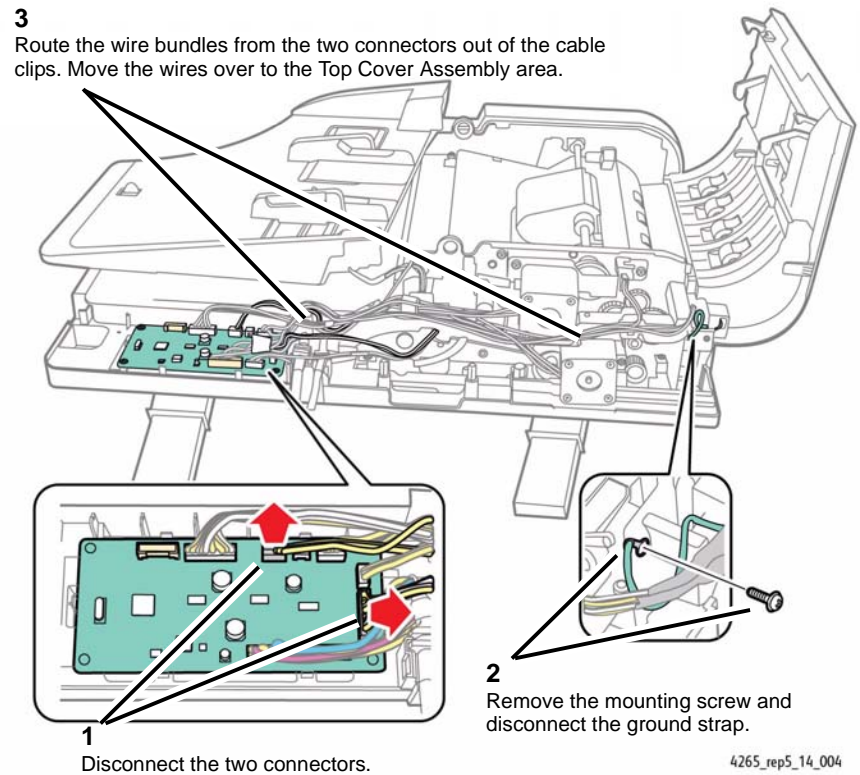

Figure 4 Preparing to Remove the Top Cover Assembly
6. Prepare to remove the Top Cover Assembly (Figure 4).